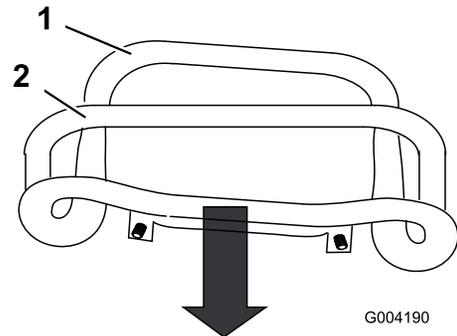

Figure 47
3. Pull straight back on the traction control so the front of the control contacts the reference bar (Figure 47).